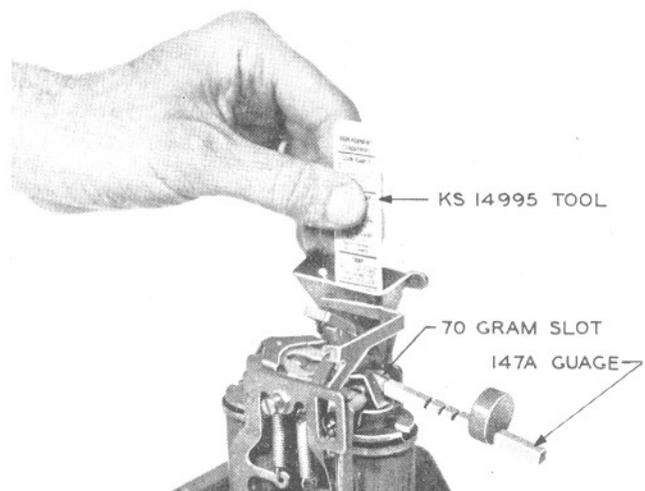

FIG. 4 — TRAP AND VANE RELEASE TEST
2. Apply slot marked "70" of 147A gauge to right rear horizontal portion of relay operating arm (see Fig. 4). Make sure that end of slot bears against edge of operating arm and that weight on gauge is uppermost.